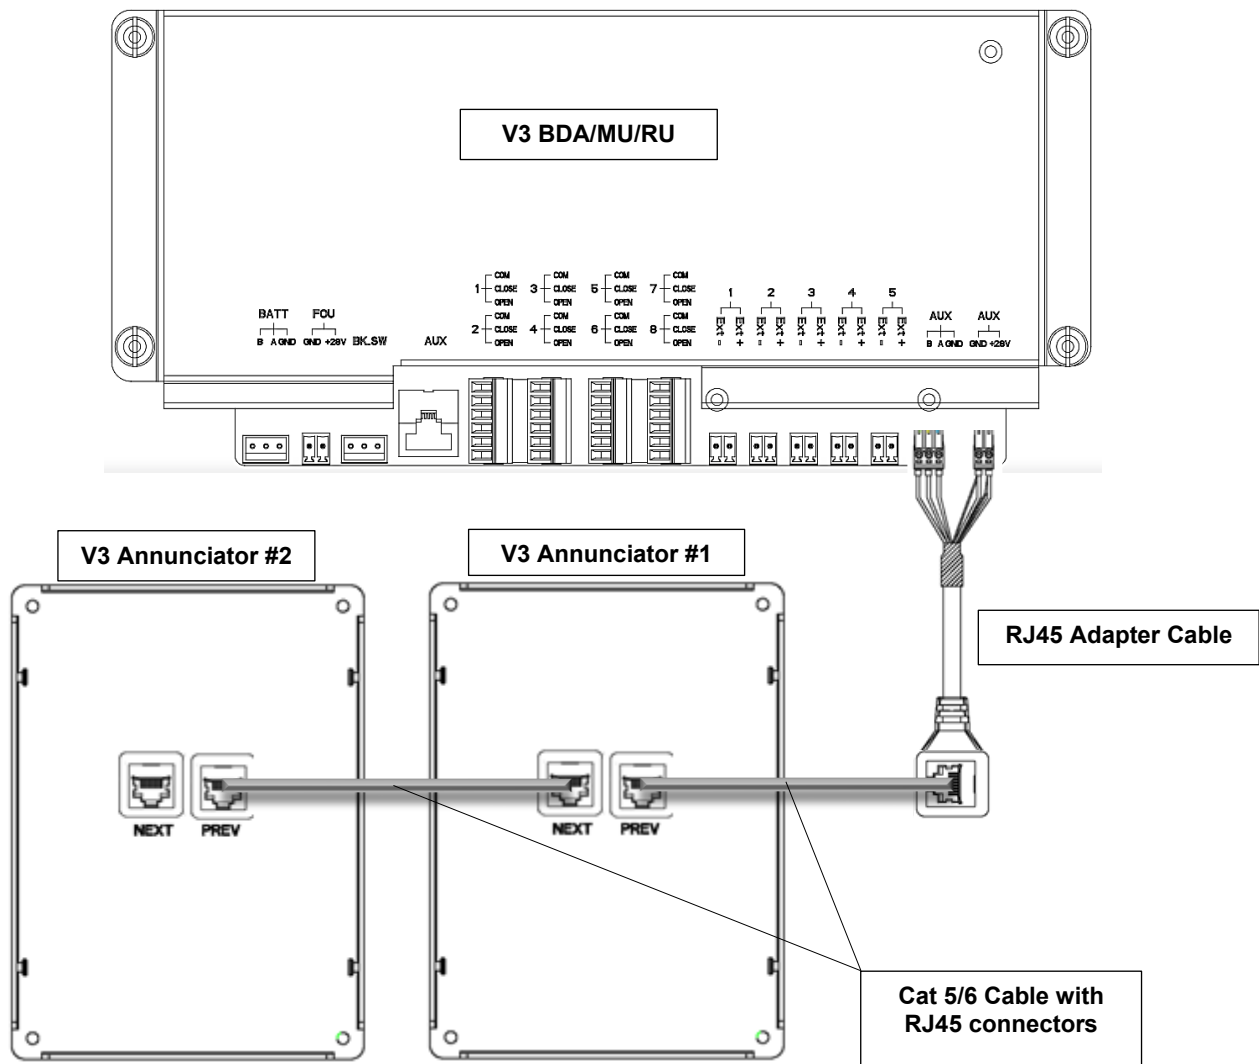

Figure 86: V3 BDA/MU/RU Wiring Connection to V3 AP
Follow the instructions below and see Figure 86 below, to connect a V3 AP to the V3 BDA/MU or RU:
- Connect the RJ45 adapter to the BDA/MU/RU as shown in Figure 86 below.